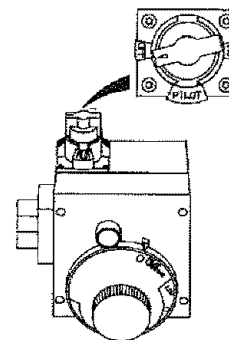
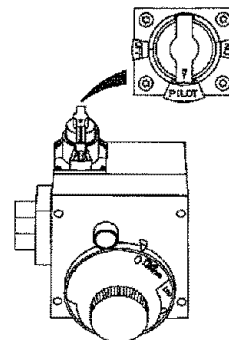

Figure 6
Figure 7
4. Turn gas control knob clockwise () to "OFF" position. Knob cannot be turned from "PILOT" to "OFF" unless knob is depressed slightly. **DO NOT FORCE.** (Figure 6, page 17)
5. Wait five (5) minutes to clear out any gas. If you then smell gas, STOP! Follow "B" in the safety information above on this label. If you don't smell gas, go to the next step.
8. If you don't smell gas, turn knob on gas control counter clockwise () to "PILOT" position. (Figure 7, page 17)
9. Push in control knob all the way and hold down. Immediately light the pilot with a match. Continue to hold control knob in for about one (1) minute after the pilot is lit. Release knob and it will pop back up. Pilot should remain lit. If it goes out, repeat steps 3 through 8.
- If the pilot will not stay lit after several tries, depress and turn the gas control knob clockwise () to "OFF" and call your service technician or gas supplier. (Figure 6, page 17)